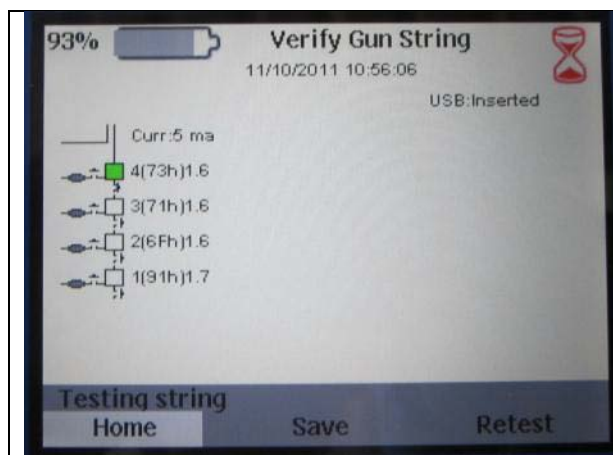
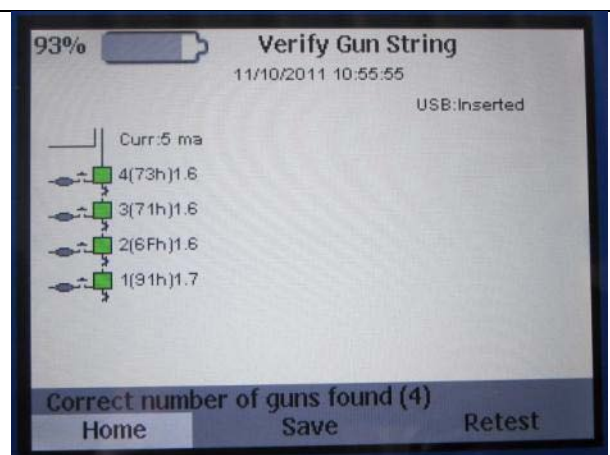

Figure 15A
Figure 15B
- Select the Verify soft key (Blue). This brings up the Verify Gun String screen and actually starts the verification process. Testing occurs in 3 stages: (i) Initializing controller, (ii) Initializing String and (iii) Testing String. As shown in Figure 15A, communication begins at the top switch with a status line indicating “Testing String”. A successfully completed test is shown in Figure 15B with a status line indicating “Correct number of guns found (4)”.
- Retest - Repeated tests for the same string can be done by selecting the Retest soft key in Figure 15B. This action retests the string each time the Retest soft key is selected.